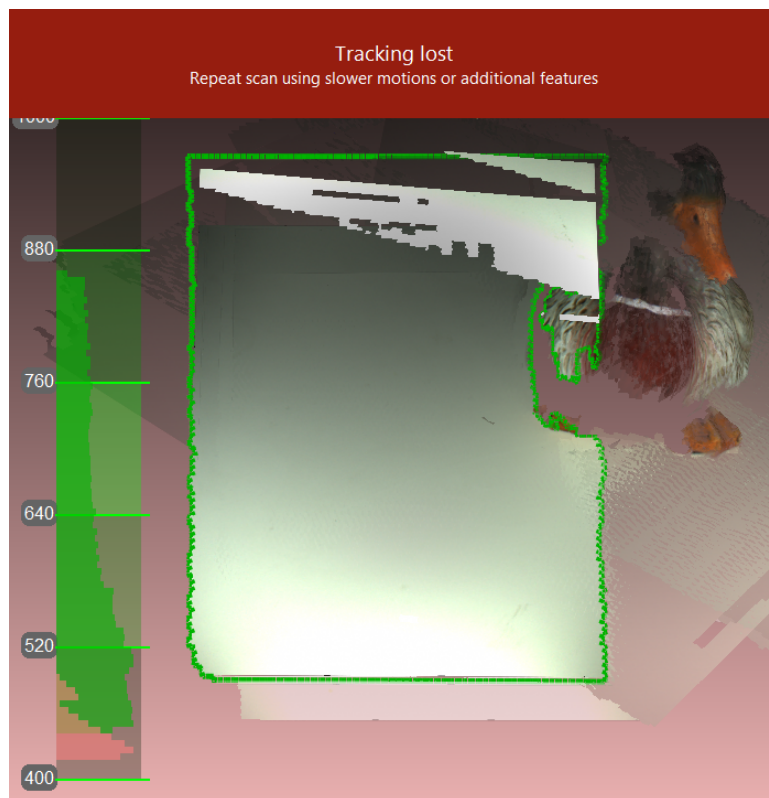

Figure 33: Alert message: tracking lost.
- Artec Studio switches almost instantly from displaying *Tracking lost* mode (see Figure 33) to *Searching for position*, which appears on a green background.